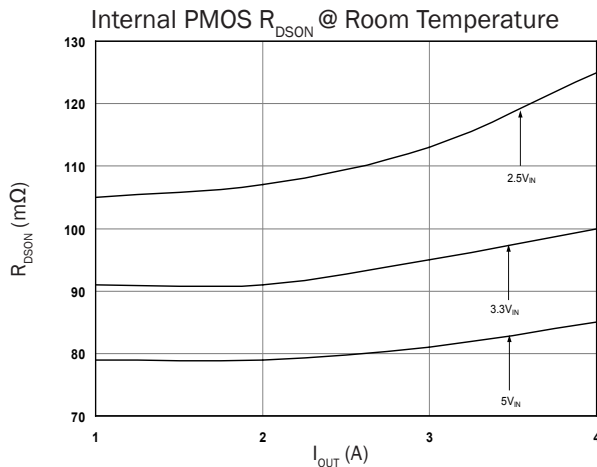

Figure 11. High-Side P-MOSFET
- R_{DSH} : Internal high side P-MOSFET resistance. (refer to Figure 11).